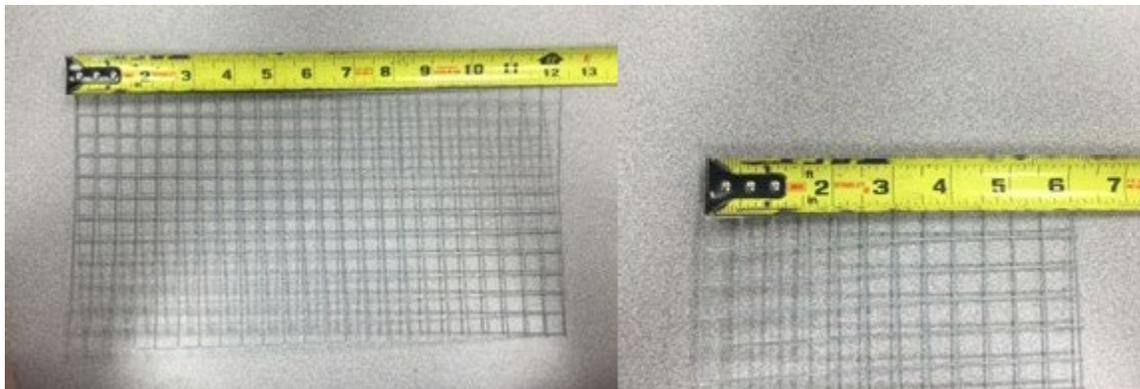

Figure 1-13
- a. Start with a section of hardware cloth 12" long and 6" wide (Figure 1-13).